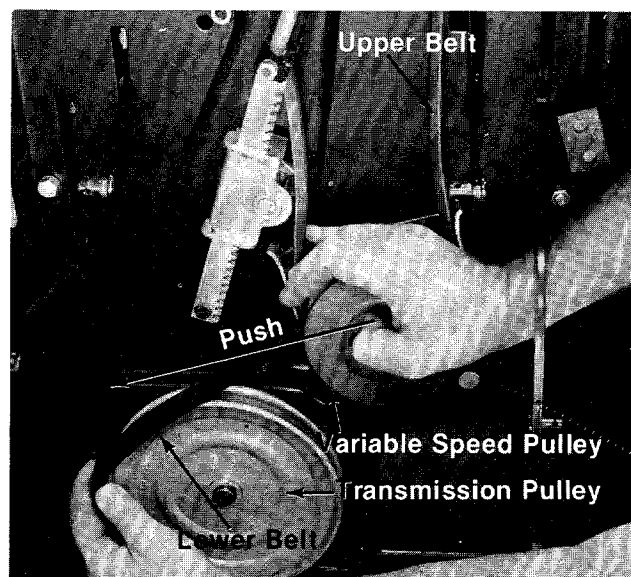

FIGURE 38.
8. Remove the engine belt guard by removing the two front engine mounting bolts. See figure 38.
10. While pushing the variable speed pulley towards the center of the rider, remove the lower belt from the transmission pulley. See figure 38.